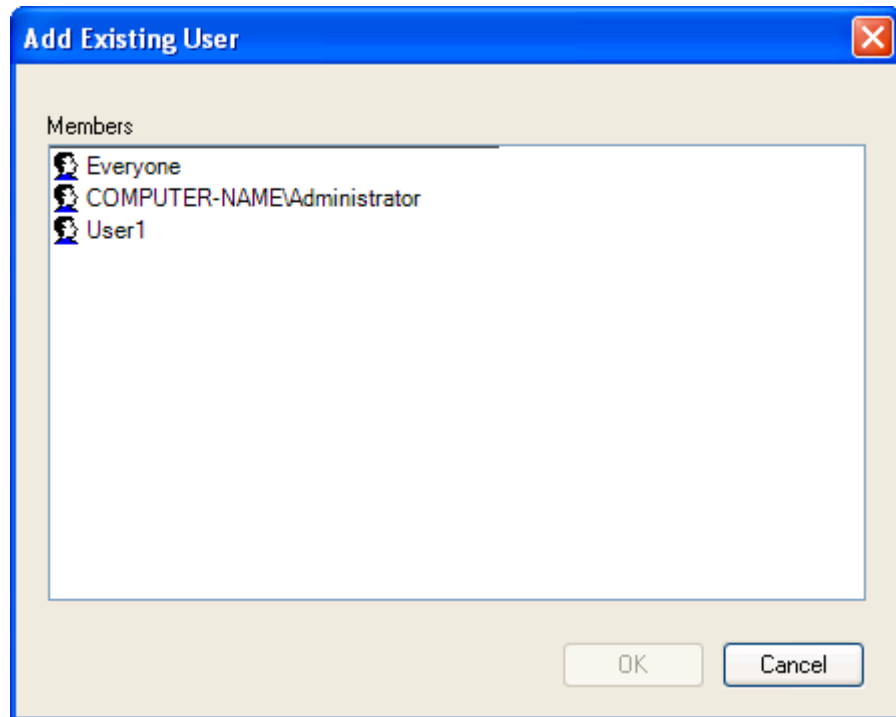

Figure 65 - Add Existing User Window
1. Click on the **Add** button. The **Add Existing User** window (Figure 65) appears.